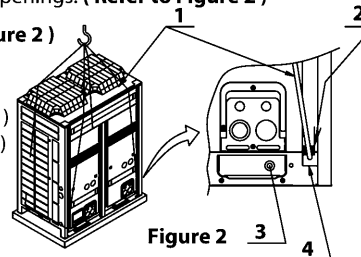

Figure 2
- If hanging the unit, use a cloth sling to prevent damaging the unit. Keeping the following point in mind, hang the unit following the procedure shown in Figure 2.
- After installation, remove the transportation clasp attached to the large openings. (Refer to Figure 2)
(Refer to Figure 2)